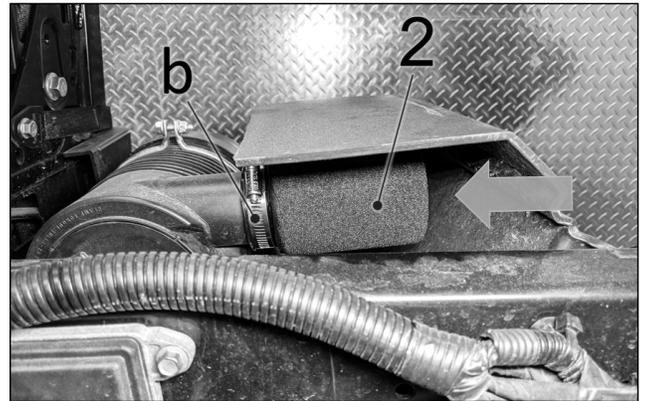

Figure 2
- 1.2 Insert Pod filter (2) over the air filter's side intake. Position and tighten adjustable clamp (b) correctly. Make sure that filter is solidly assembled in place. See Figure 2.